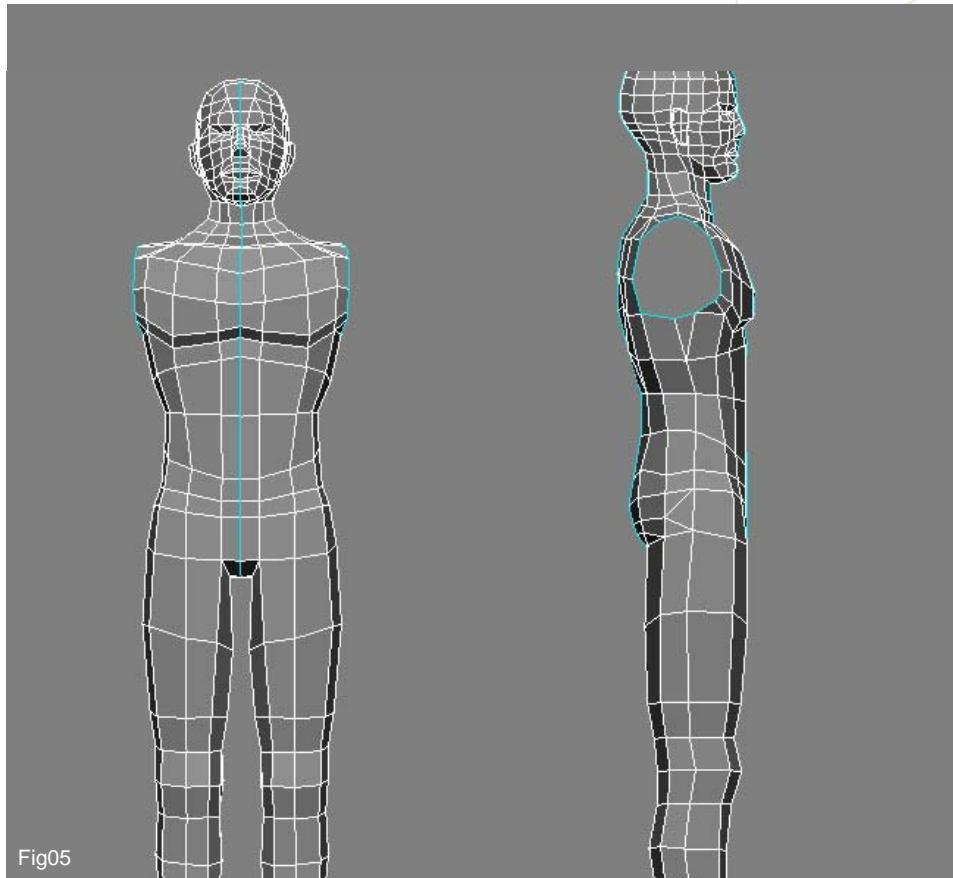

Fig05
5. Again, using the same technique, extrude the edges downwards to the ankle, as shown in Fig 05. After each extrusion, take some time to adjust the vertices, according to the anatomy of the leg.